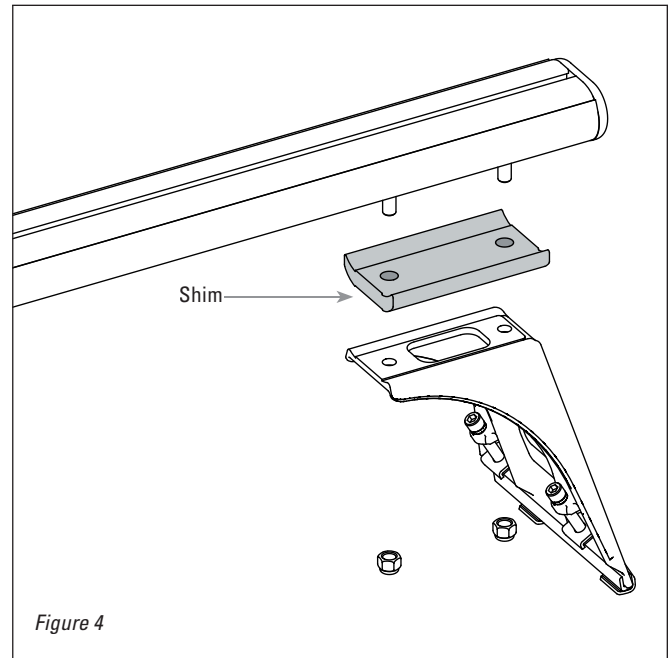

Figure 4
3. Loosely assemble the front and rear crossbar assemblies, placing the shims between the corner brackets and the crossbar (*Fig. 4*).